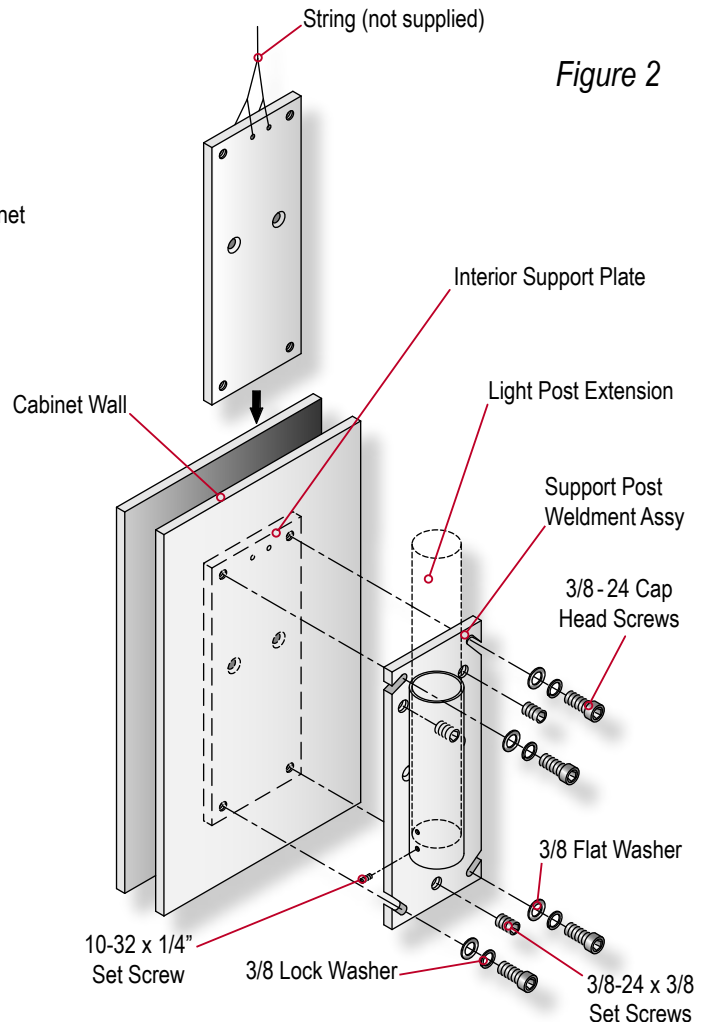

Figure 2
2. Install the interior support plate in the proper position inside of cabinet extrusion by hanging it with a string and two 1/8" diameter holes located at top of plate. See *Figure 2*.
3. Install support post weldment in the proper position and fasten it to the interior support plate using four (4) 3/8-24 x 1" cap head screws and washers. See *Figure 2*.
4. Install support post weldment in the proper position and fasten it to the cabinet using four (4) 5/16-18 x 1" cap head screws and washers. See *Figure 2*.
5. Install the light post extension by tightening the 10-32 x 1/4" set screws. See *Figure 2*.